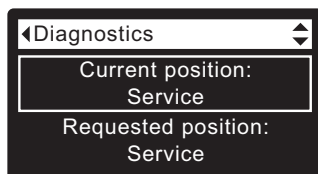

FIG. 97
4. Press the UP (▲) button to scroll through the list until **Current position** is displayed (See Figure 97).